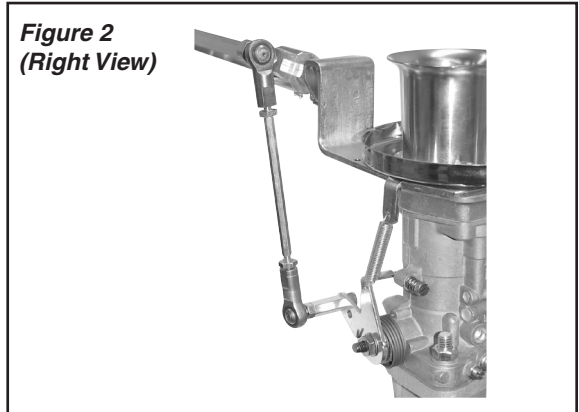

Figure 3
- (C) Install the flange gaskets and carburetors onto the manifolds. Secure them in place using the lockwashers and nuts from the kit. **DO NOT OVERTIGHTEN THE CARBURETOR HOLD DOWN NUTS. (12-14 FT/LBS MAXIMUM)**.
- (D) Slide the center pull-lever and the left and right extension arms onto the hex bar so there is approximately 60° between the centerline of the arms compared to the center pull lever (**See Figure 3**). Install retention hardware onto the parts, but **DO NOT** fully tighten at this time. Install the jam nuts onto the ball-ends and thread the ball-ends into each end of the hex bar.